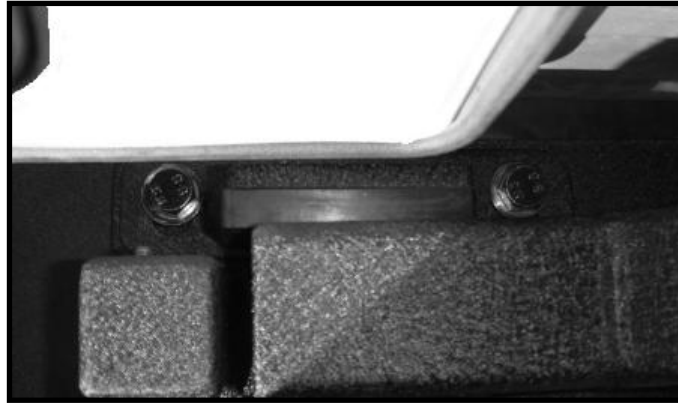

Figure 11.
10. Once the spindle bracket and catch post bracket distances have been properly adjusted, unlatch and open the tire carrier. Slide the vibration isolator bracket forward, and tighten the top bolts of the catch post bracket. Close the tire carrier. The rubber face of the vibration isolator should be in contact with the tire carrier arm (Figure 11). If the rubber face does not contact or if the tire carrier can not be latched, adjust the vibration isolation bracket accordingly.